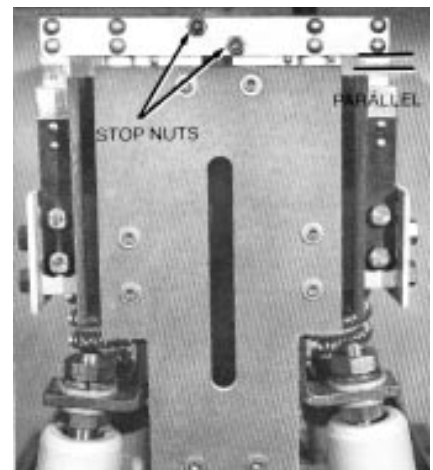

Figure 24.
- G. Viewing the contact assembly from the end of the switch, as in Figure 24, check that the moving contacts are entering squarely into the moving contacts. A visual check that the moving contact bar is parallel to the edge of the housing is adequate assurance of this adjustment.